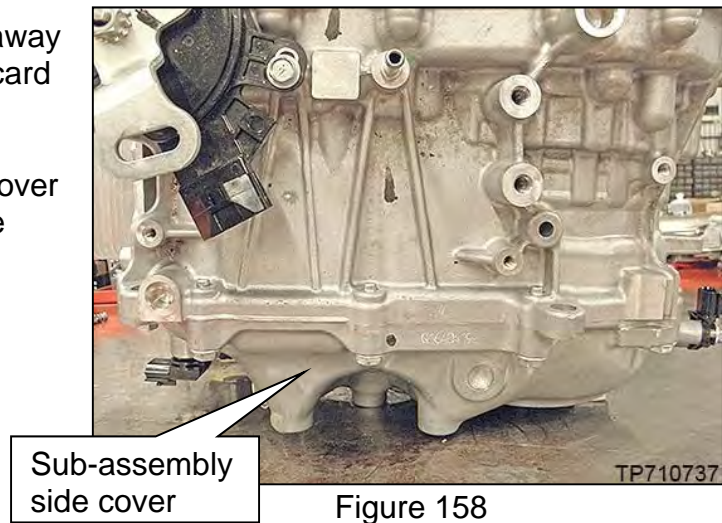

Figure 158
- Leave the sub-assembly side cover facing down as shown in Figure 158.